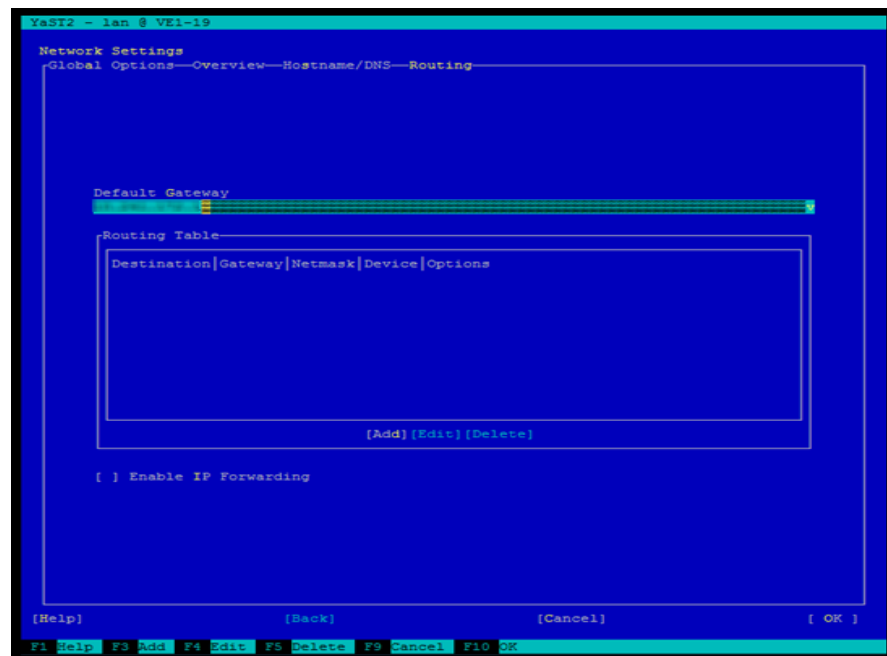
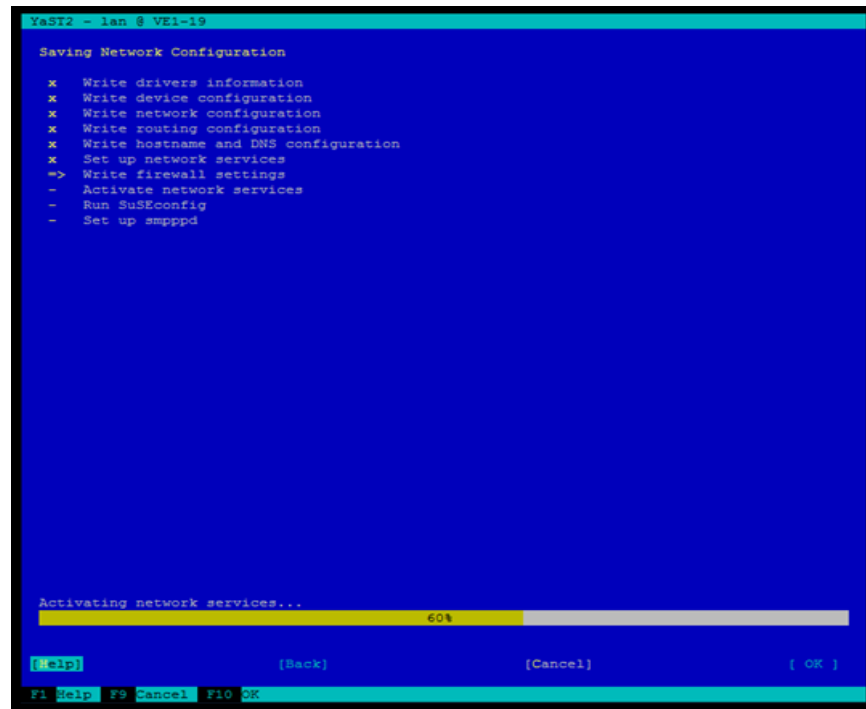

Figure 174 Editing the default gateway
Figure 175 Saving network configuration
- c. Edit the default route/gateway using **Alt-U**, as shown in Figure 174 on page 131. When editing is complete, use **Tab**, **Alt-O**, or **F10** for **OK**. All edits to the network configuration are written to the system configuration and the network services become activated, as shown in Figure 175 on page 132.